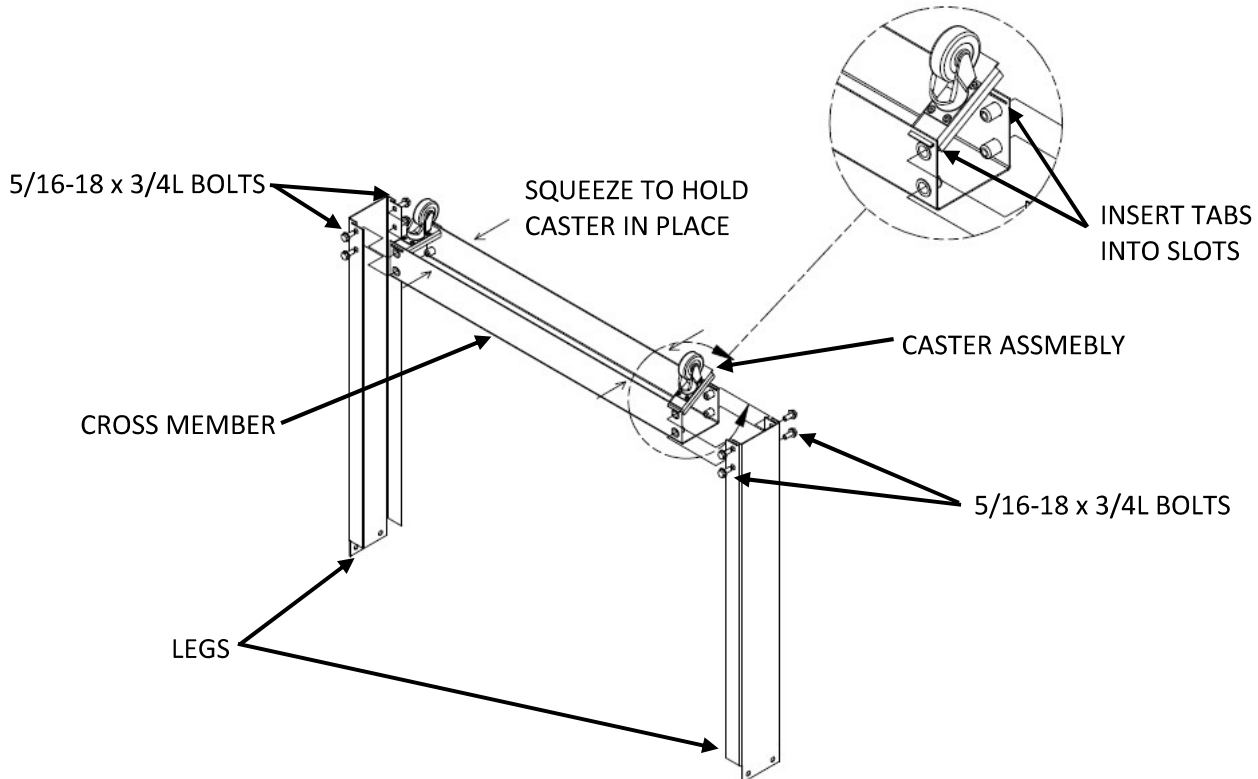

Figure 2
4. Insert the tabs on the **CASTER ASSEMBLY** into the slots on the **CROSS MEMBER FOR LEGS**, then squeeze the **CROSS MEMBER** to hold the **CASTER ASSEMBLY**s in place (see **Figure 2**).
6. Use four **5/16-18 x 3/4L BOLTS** to attach each **LEG** to the **CROSS MEMBERS** (see **Figure 2**).